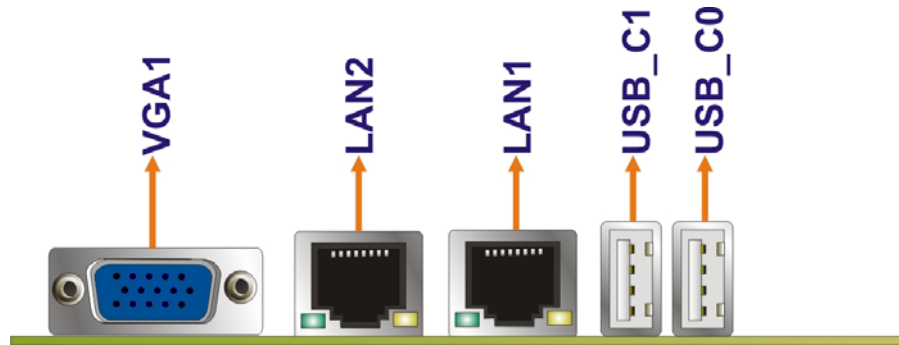

Figure 3-17: SPCIE-5100DX External Peripheral Interface Connector
- CN Location:** See Figure 3-17
- CN Location:** See **Figure 3-17**